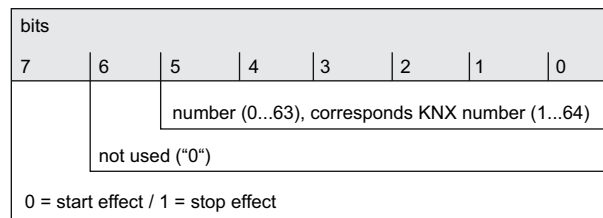

Figure 55: Structure of the object value for the effect extension
The structure of the telegram value for the effect extension is orientated to the KNX DPT 18.001, which is also used in the scene extension (Figure 55).
- i** It should be noted that the object value of the extension input is always "1" less than the configured KNX number, in accordance with KNX DPT 18.001 (Figure 55).